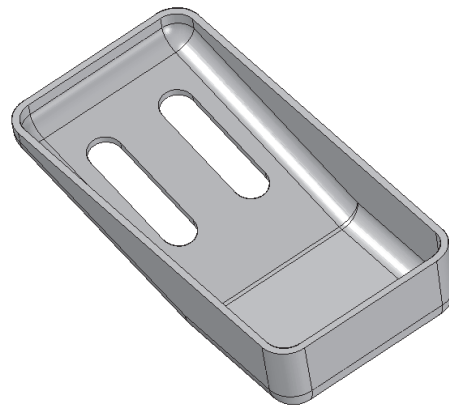

Figure 7-60 Model after creating the cutouts
- e. Create two cutouts in the model, refer to Figure 7-60.
1. Create two cutouts in the model, as shown in Figure 7-60.